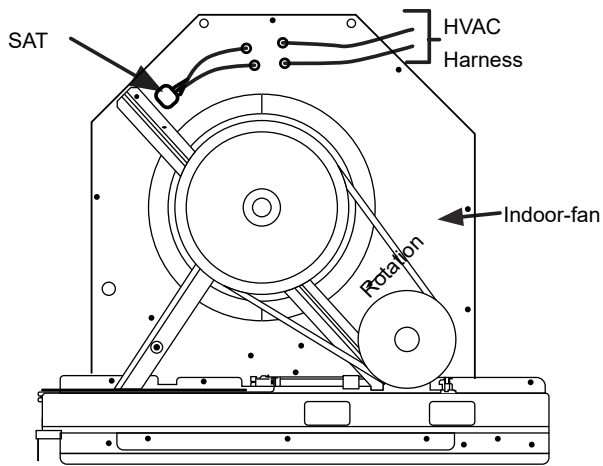

Fig. 24 — Blower Housing
10. Install the supply air temperature sensor (SAT). The sensor looks like an eyelet terminal with 2 attached wires, and is shipped in the economizer hardware bag. The sensor is located on the “crimped” end and is sealed for moisture. Mount the SAT to the indoor blower housing. (See Fig. 24.) Use the provided screw to secure in place. Attach the PINK and VIOLET wires in the unit to the sensor.